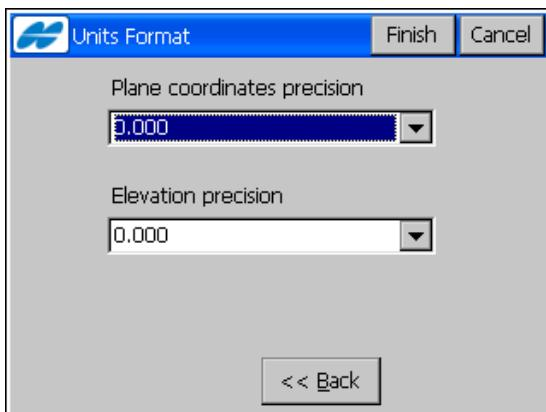

Figure 4-19. Select Latitude/Longitude Format
- **Next** – opens the **Units Format** screen (Figure 4-19 on page 4-18).
On the **Units Format** screen (Figure 4-19 on page 4-18), select from the drop-down list the format you want to represent the degrees of Latitude and Longitude/planes coordinates precision/elevation precision/ in the file exported.